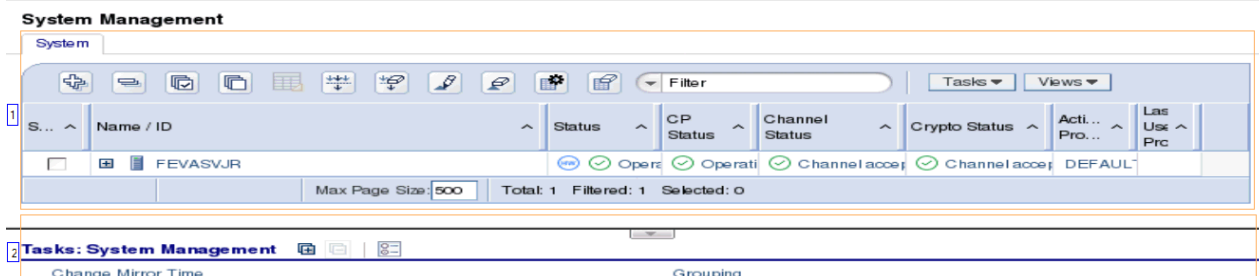

Figure 9. Sample System Management view in work pane
The **System Management** node represents all the resources that are managed by this Support Element console. When you select the **System Management** node from the navigation pane, all managed objects are displayed in the work pane, as shown in Figure 9 on page 278.
- You can use the collapse control, which is highlighted in Figure 9 on page 278, to hide the task pad.